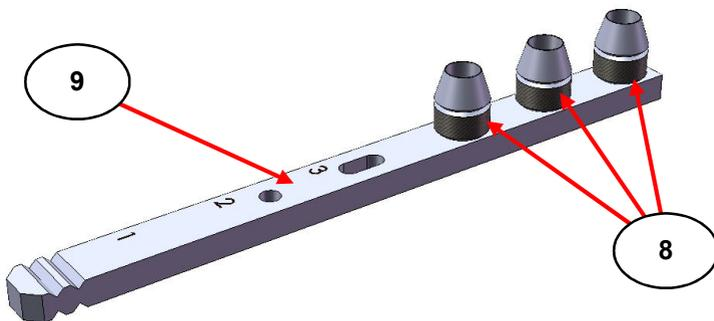
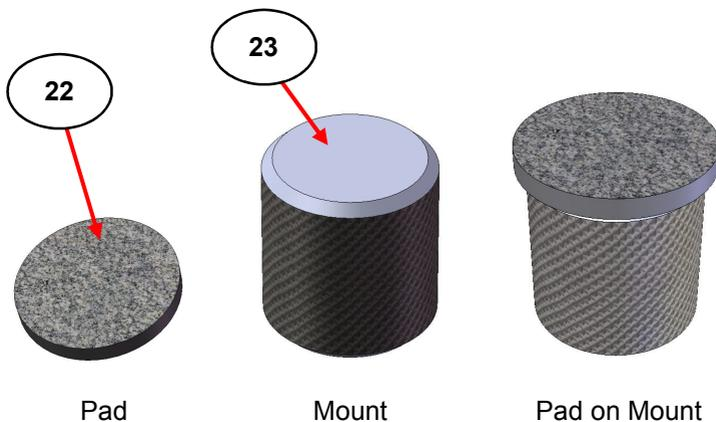

Fig 5. Minidiff Plus Sample Cups on Mount Holder Assembly
Fig 12. Minidiff Plus Diabrazed Pad and Mount
To align for the sample surface focal point position, one of the sample cups (8) is used in the **sampling position** with the Minidiff Plus sample cup mount holder assembly (9). (See Fig 5.)
Figs 5 and 6 show three sample cups (8) fitted to the mount holder assembly (9). The positions of the cups as shown from left to right correspond to the loaded **sampling positions 1, 2 or 3** as marked on the mount holder assembly (9).
To sample with the Minidiff Plus diffuse reflectance accessory there is a choice in use of a sample cup (8) for powder solid sampling (See Fig 5.), or a diabrazed pad surface (22) that is affixed to its own mount (23). (See Fig 12.)
As mentioned in Section 5), (See **Fig 5.**), the sample cup mount holder (9) has three sampling positions to place a filled sample cup (8). Hence on the sample cup mount holder (9) you may already wish to have sample cup position 1 occupied for the blank reference material in a sample cup (8) and the spare sample cup positions 2 and 3 for actual samples. It is then a simple matter of turning the sample position screw (13) accordingly to change the reference sample cup (8) from its background blank **sampling position** at the 1 position to load a filled sample cup (8) at the 2 or 3 position into the **sampling position**.